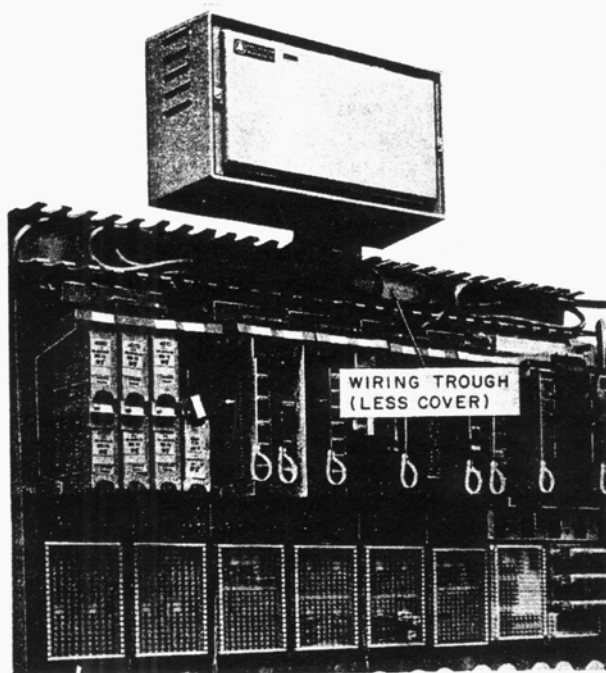

Fig. 11—Installation Using Wiring Troughs for Power Cabling
- (7) Fasten the backboard plate assembly to the wall using appropriate fasteners.
- (8) Hang power unit on backboard and secure it with the machine screw(s) provided.
- (9) Plug single-ended power interconnect cable of modular panel into appropriate connector of power unit. If it will not reach the power unit, use a P12D cord (Table D) to complete the connection. To disconnect power cord, squeeze the tabs on the top and bottom of the power cord connector and pull out.
- (10) Wiring troughs (Fig. 11) may be used to hold excess loops of power cable and improve the appearance of the installation. Mount the troughs horizontally on the wall directly above the modular panels (mounting screws to be obtained locally). Press the loose power cable into the slots, looping it until slack is removed. Put cover on troughs. One trough will fit above two 620A-type panels or four 641As or 642As. Snap-on covers are provided with the wiring trough to retain the cables and to improve appearance.
- (11) For 19- or 20-type power unit, install and connect as indicated in Section 167-440-201. For 29- or 30-type power unit, install and connect as indicated in Section 167-446-101. Mount the 92A connecting block in reach of the power cable of the modular panel or extend with a P12D cord.